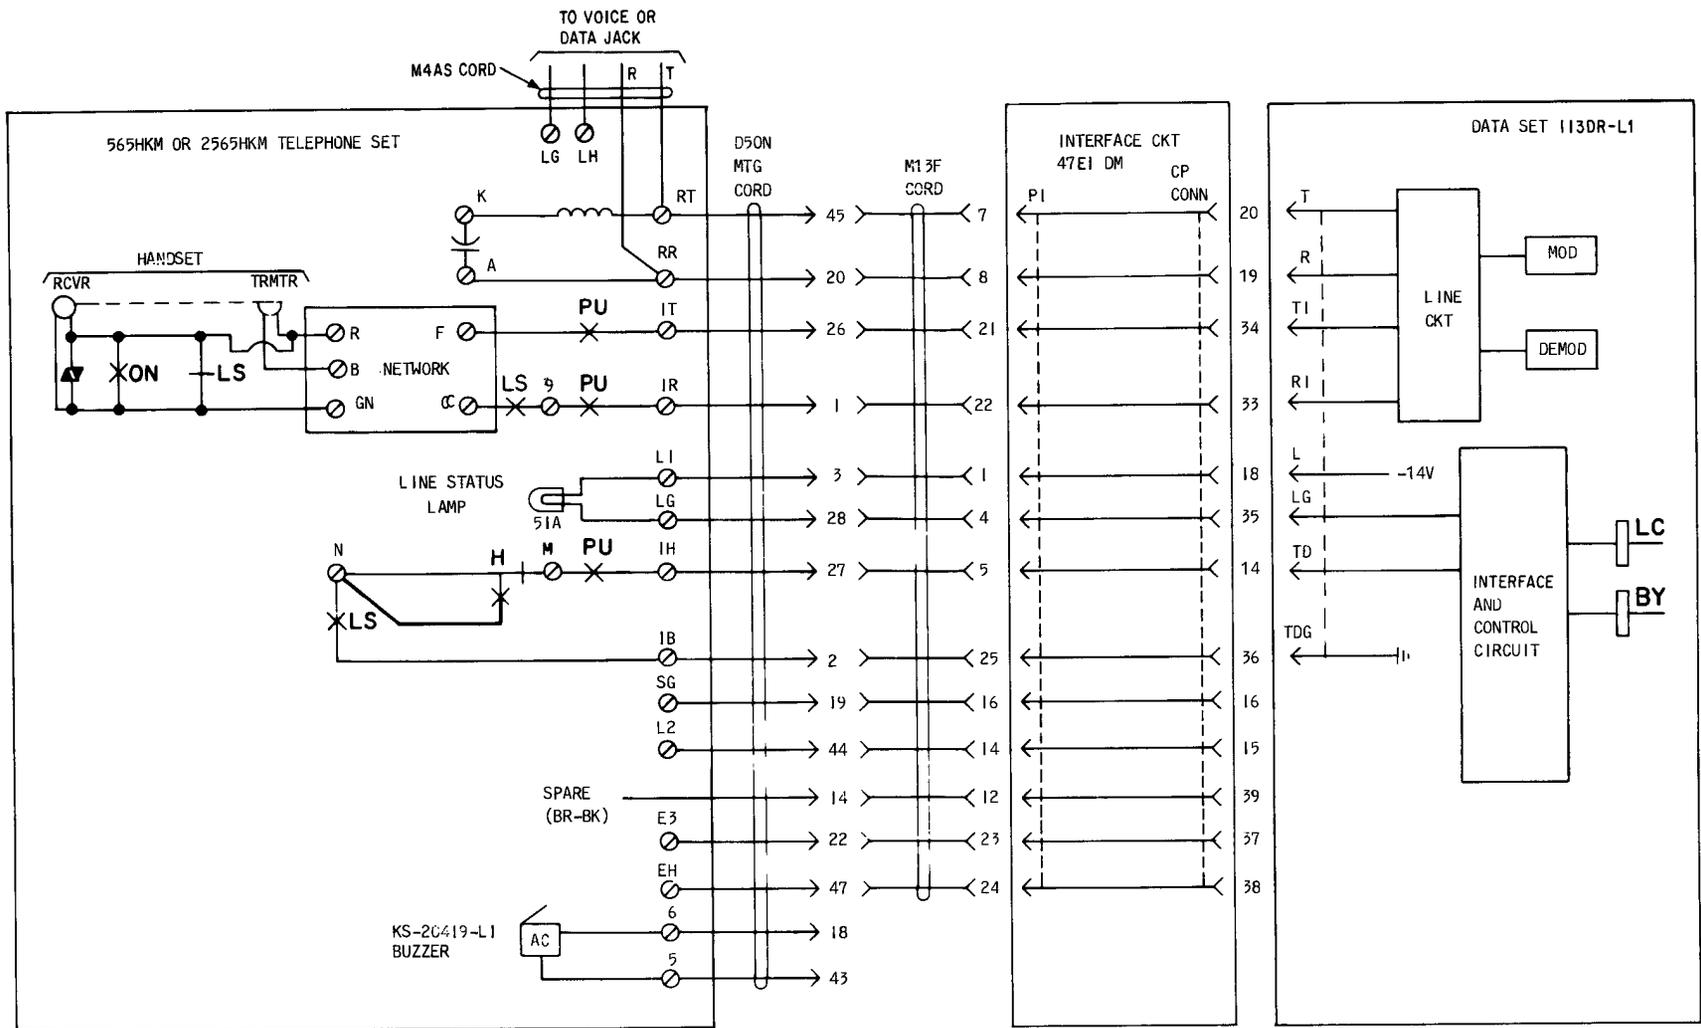

Fig. 4—Interface Between Telephone Set and Data Set
4.03 Figure 4 shows a simplified diagram of the telephone set, interface, and data set.